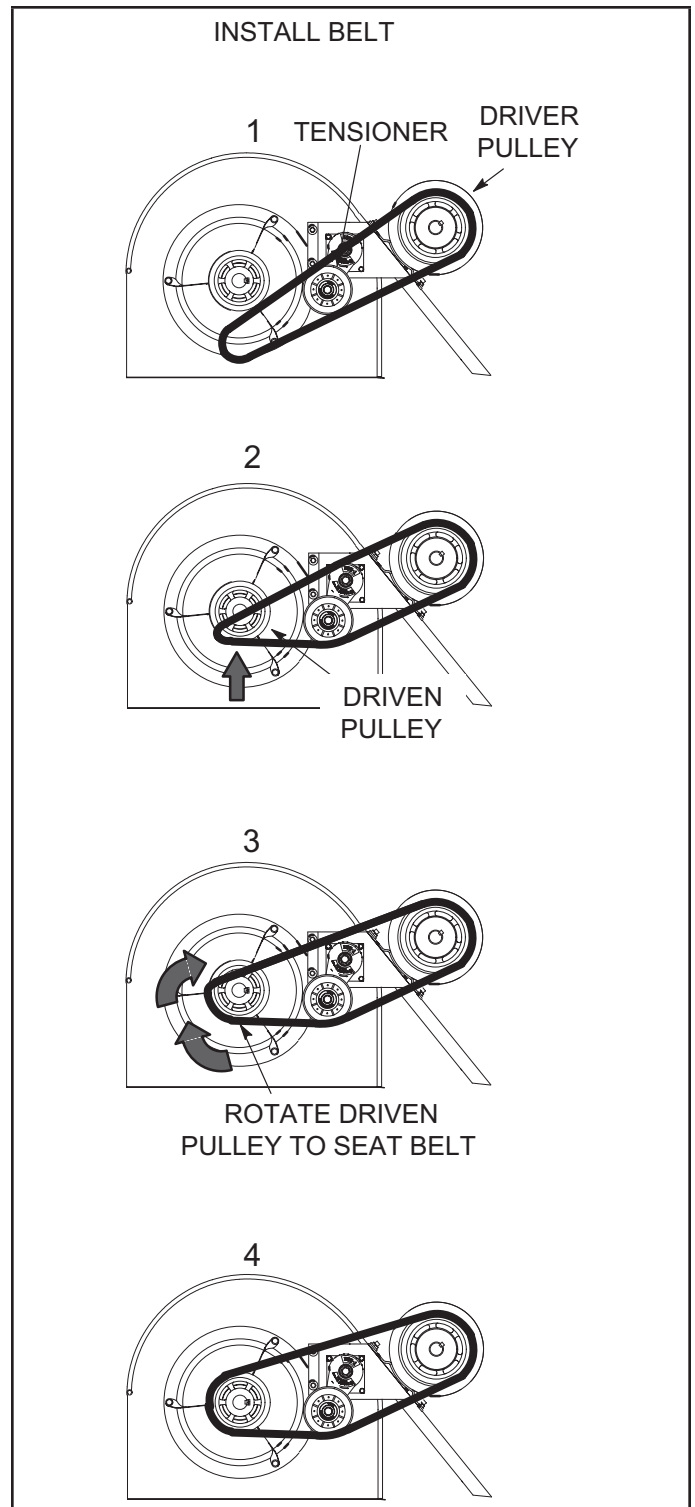

FIGURE 24
- 6 - Replace blower belt. See FIGURE 24.